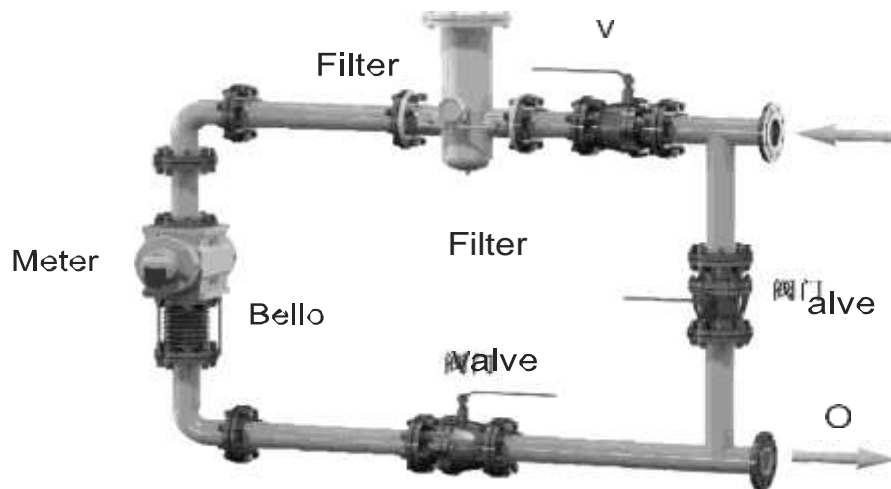

Figure 7 Vertical installation
6.1.1 Vertical installation (see Figure 7): When installed vertically, the gas inlet must be at the top, and the airflow flows from top to bottom, that is, top in and bottom out. The company recommends that users use vertical installation as much as possible. Vertical installation is helpful to the impeller's self-cleaning ability against debris.
- (3) The oil injection hole is located directly above the meter, and the oil drain hole is located below the meter, as shown in Figure 7 (both vertical and horizontal installations are the same).
- (4) Loosen the well and remove the oil filling screw at the top, being careful not to lose the "O" ring
- (5) Use a sharp-necked bottle filled with lubricating oil to fill the oil injection hole so that the oil level reaches the center of the oil standard sight glass. Refer to Table 4.